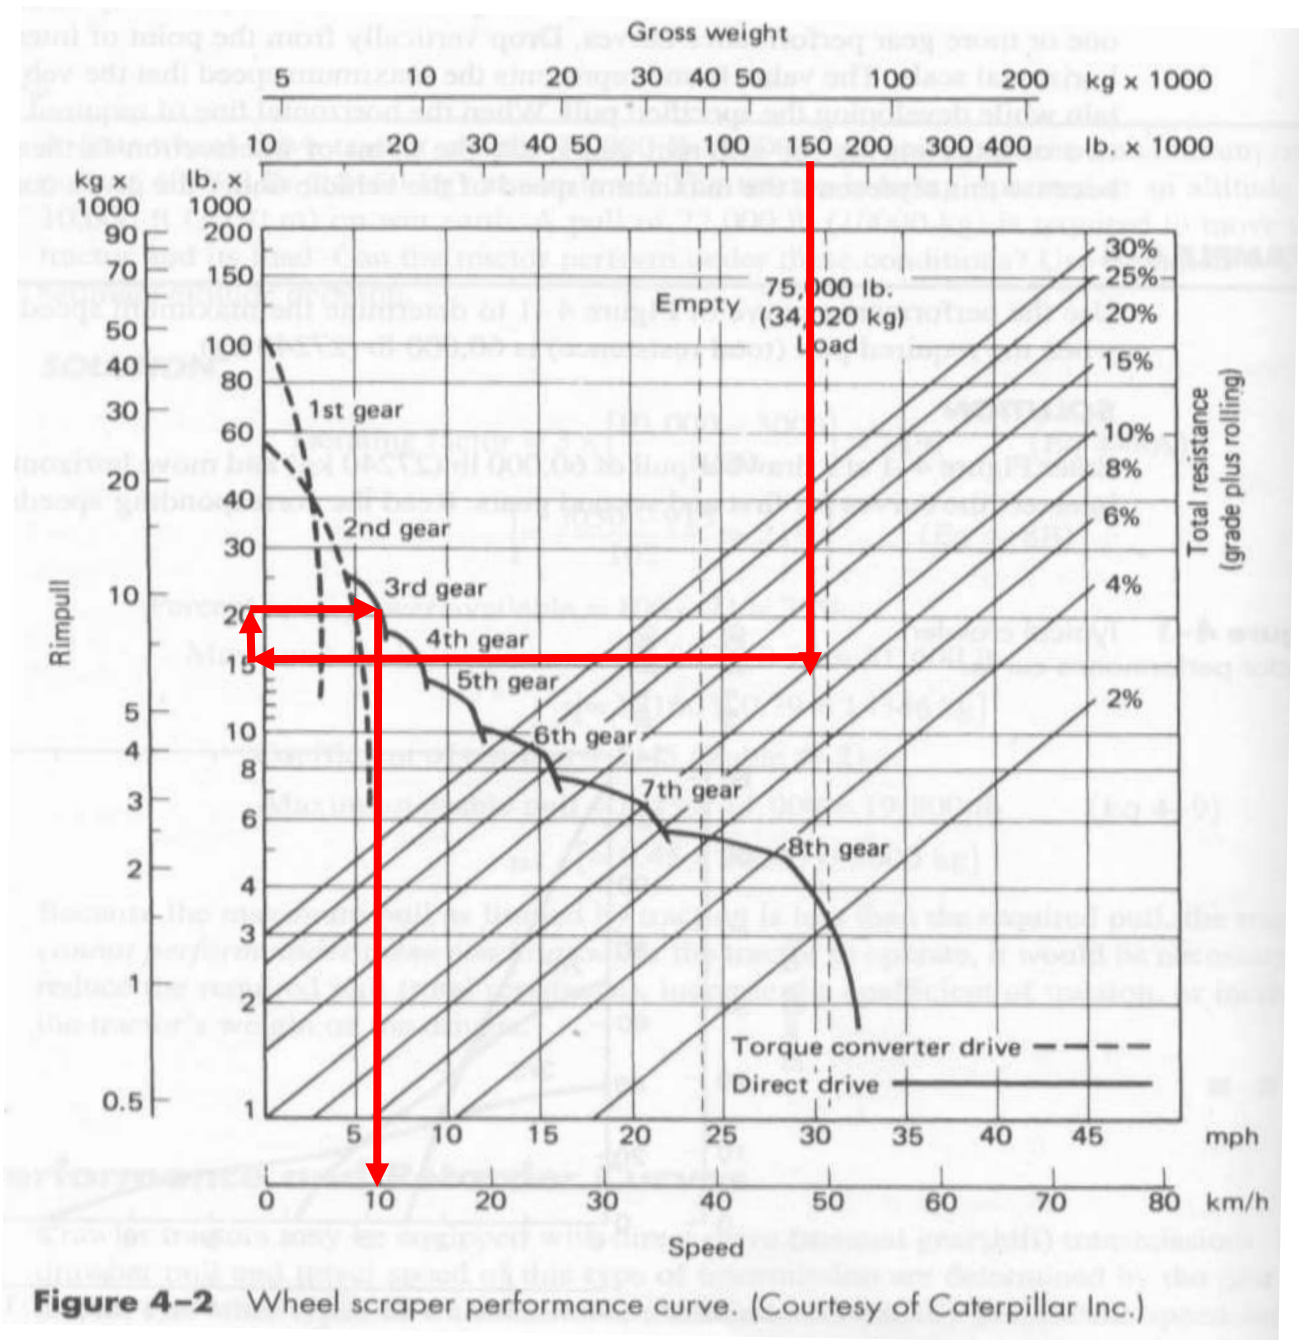

Figure 4-2 Wheel scraper performance curve. (Courtesy of Caterpillar Inc.)
- In this case, it is the retarder curve for the tractor-scraper whose performance curve is shown in Figure 4-2.